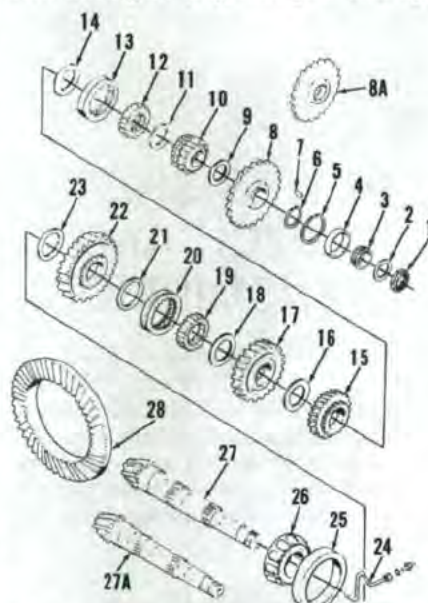

Fig. 108—Exploded view of four-speed gear countershaft used on all Model 2090 and 2290 tractors.
Bend retainer nut (1—Fig. 108) lip from notch in countershaft and remove nut and thrust washer (2). Remove snap ring (6) from shaft. Using a brass drift, drive countershaft rearward approximately 1/4 inch (6.35 mm) and install a suitable puller and remove front countershaft bearing cone (3). Push countershaft assembly rearward until out of park lock gear (8) and remove Woodruff key (7) (on models equipped with transmission S/N 10237494 and below) from countershaft. Push countershaft rearward while removing items (9 through 18) out top of access opening. Park lock gear cannot be removed until fourth, third and second gears are removed. Remove park lock gear (8) then remove remainder of items (19 through 23) out top of access opening and withdraw countershaft from rear of transmission.
116. Clean and inspect all parts for damage or excessive wear and renew as necessary. Check bearings for free smooth action and renew any bearing having a loose fit or rough action. Bearing (26—Fig. 108) may be heated to 250° F (120° C) for ease of assembly.
117. COUNTERSHAFT. Assemble countershaft as follows: If rear pinion bearing cone (26—Fig. 108) was removed, heat and install bearing cone on countershaft with large side toward pinion gear. With countershaft standing vertical with pinion gear down assemble shaft components as follows: Install 1/8 inch (3.18 mm) thick thrust washer from thrust bearing (23), then install needle bearing and cup washer, cup side down. Install first gear (22), hub gear end up. Install pinion shaft hub (19) with 1/4 inch (6.35 mm) recessed spline side down, then install shift collar (20). Install thrust bearing (18), cup side down; second gear (17), hub gear end down. Install thrust bearing (16), cup side down, then third gear (15), hub gear end up.
If front bearing cup was removed, install snap ring (5—Fig. 108) and press cup (4) into bore against snap ring. Install countershaft through rear of transmission case assembling parts in order outlined previously in this paragraph and shown in Fig. 110. Install a bar and bolt as shown in Fig. 111 to hold countershaft rigid and in correct position for installation of front bearing. Heat front bearing cone (3—Fig. 108) and install on front of countershaft, then install thrust washer (2) and retainer nut (1).